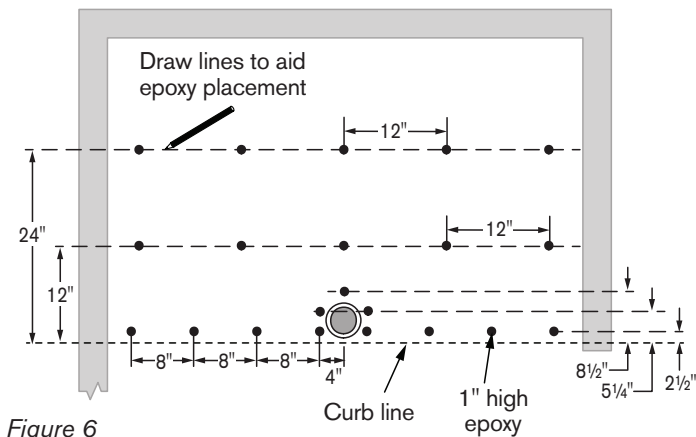

Figure 6
- 12 Before applying the supplied anchoring epoxy, mark the floor with the epoxy pattern and spacing shown below. (Figure 6)